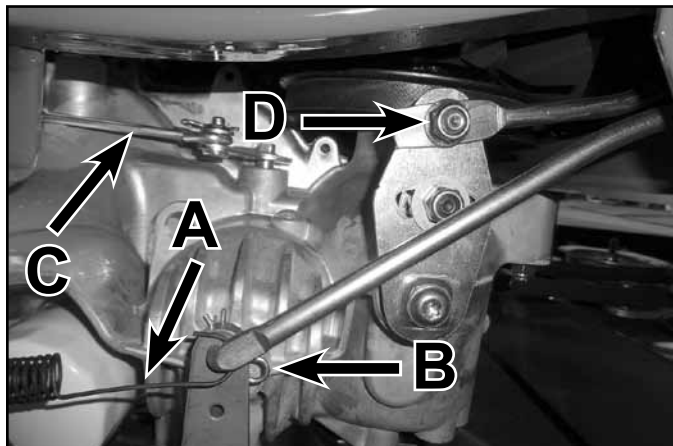

Fig. 085
8. Install the parking brake return spring (A).
9. Install the brake rod into the hydro arm and insert the retaining pin (B).
10. Install the hydro bypass rod, washer and retaining clip (C).
11. Install the hydro control rod nut and bolt (D) and torque to specification - 17 ft-lbs. (23 Nm) (Fig. 085).